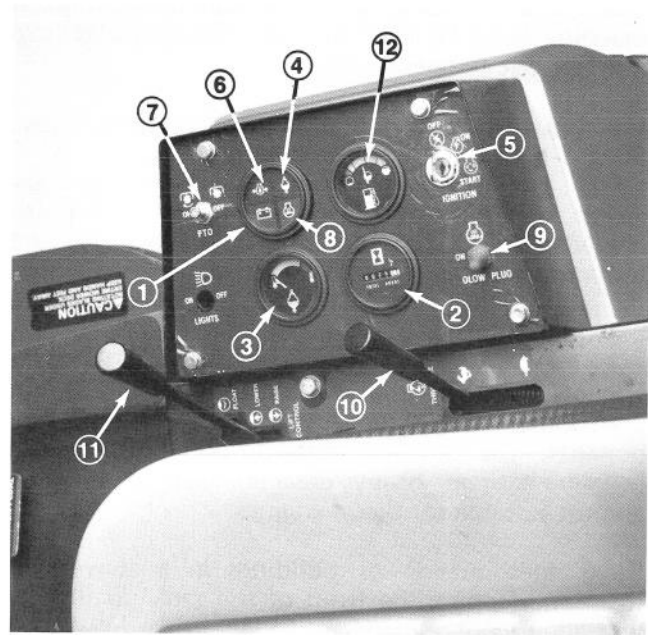

Figure 18
Amp Light (Fig. 18) — The amp light should be off when engine is running. If it is on, the charging system should be checked and repaired if necessary.
Hour Meter (Fig. 18) — Accumulated engine operating time registers on the hour meter.
Temperature Gauge and High Temperature Light (Fig. 18) — The coolant temperature gauge registers the coolant temperature in the system. If the temperature gets too high the engine will automatically shut off and the High Temperature Shutoff Light will light. When this happens, turn the ignition key off, check radiator for debris, check the fan belt and check the expansion tank for proper coolant level. The high temperature shutoff will automatically reset when the coolant temperature has reached a safe level.
Low Oil Pressure Light (Fig. 18) — If engine oil pressure falls below a safe level, the light glows. Stop engine and repair before resuming operation.
PTO Switch (Fig. 18) — Pull up on sleeve on toggle switch handle and move handle to ON to ENGAGE electric PTO clutch. Pull up on sleeve and move handle to OFF to DISENGAGE electric PTO clutch. The only time the PTO switch should be in the ENGAGE position is when the implement is down in operating position and ready to begin operation.
Ignition Key Switch (Fig. 18) — The ignition switch, which is used to start and stop the engine, has three positions: OFF, RUN and START. Rotate key clockwise — START position — to engage starter motor. Release key when engine starts. The key will move automatically to the ON position. To shut engine off, rotate key counterclockwise to the OFF position.
Glow Plug Switch and Indicator (Fig. 18) — Use to preheat engine cylinders prior to cold engine starting procedures — cylinders are preheated automatically during warm engine start operation. For cold starting, push switch lever upward and hold while watching indicator. Indicator will glow orange when the glow plugs are activated. Length of time necessary to preheat cylinders should be determined by atmospheric temperature; refer to Starting/Stopping Engine procedure.
Throttle (Fig. 18) — Throttle is used to operate engine at various speeds. Moving throttle forward increases engine speed — FAST; rearward decreases engine speed — SLOW. The throttle controls the speed of the cutter blades and, in conjunction with traction pedal, controls ground speed of the traction unit.
Hydraulic Lift Lever (Fig. 18) — The hydraulic lift lever has three positions: FLOAT, TRANSPORT and RAISE. To lower cutting unit to the ground, move lift lever forward into notch in seat platform — FLOAT. The FLOAT position is used for mowing and when machine is not in operation. To raise cutting unit, pull lift lever rearward to the RAISE position. After cutting unit is raised, allow lift lever to move to the TRANSPORT position. Cutting unit must be raised when driving from one work area to another.
1. Ensure parking brake is set, PTO switch is in OFF position and lift lever is in TRANSPORT or FLOAT position (Fig. 18). Remove foot from traction pedal and insure it is in neutral.
2. **Move throttle control (Fig. 18) to full FAST position.**
3. When temperature is below 15°C (60°F), push glow plug switch to ON position (Fig. 18) and hold for suggested interval.
4. Turn key in ignition switch to START position (Fig. 18). Release key immediately when engine starts and allow it to return to RUN position. Move throttle control to SLOW position.